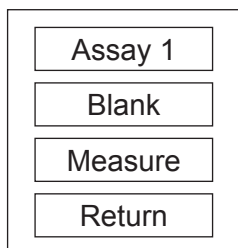

Figure 6. Measure screen
- Touch the Measure tab on the Main Menu screen to enter the assay selection screen. In the screen you can select Assay 1, 2, or 3. This selection will measure the sample and calculate the nominal concentration value using the standard value that you used in the calibration steps. Or you can touch Next to enter the next screen and select RFU Hi or RFU Lo function to measure values in relative fluorescence units (RFU) using high or low optical excitation power settings, respectively. After assay selection, the Measure screen will appear (Fig. 6).
- If you performed calibration (section 2.3), proceed to the next step. If you did not perform calibration, prepare a blank sample, referring to Section 2.2. Insert blank tube into the sample chamber and touch Blank. After the blank has been read, the Measure screen will appear (Fig. 6).